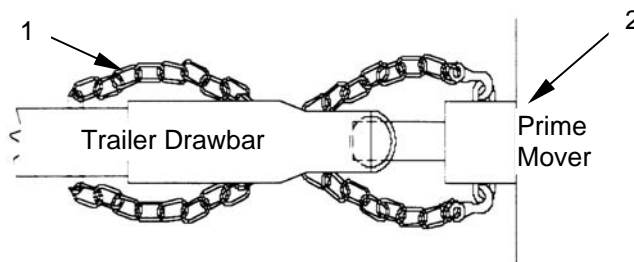
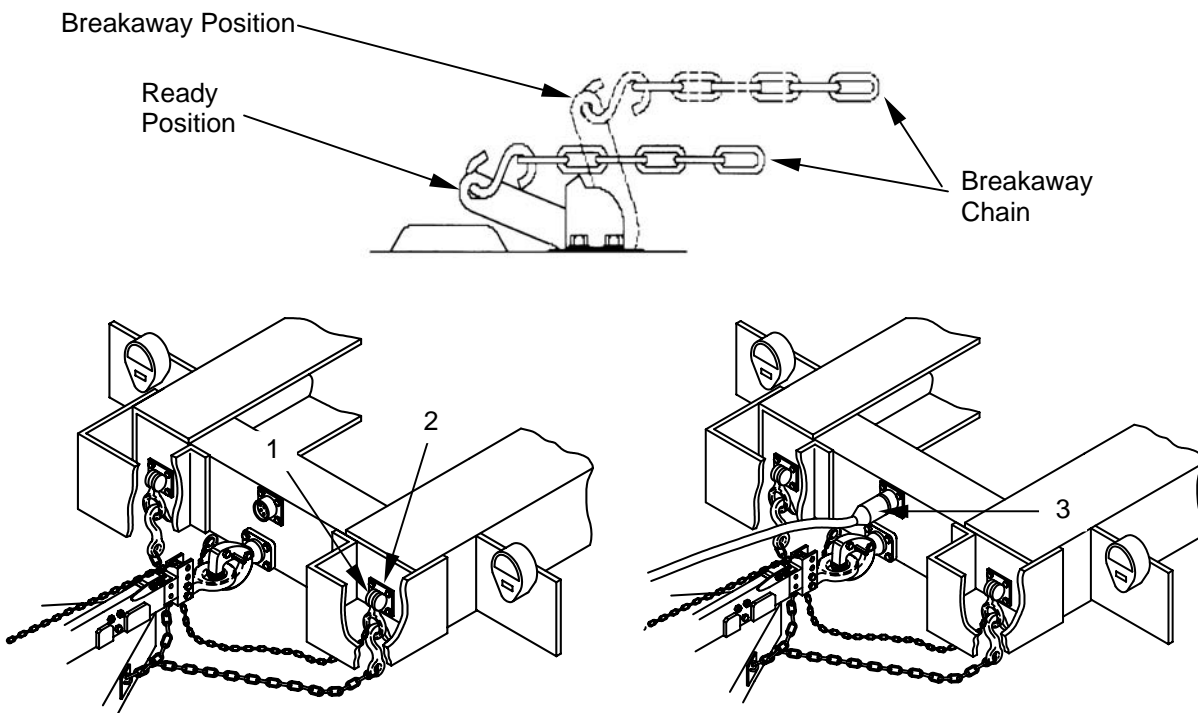

Figure 8. Connecting Safety Chains
Figure 9. Connecting Breakaway Chain and Inter-vehicular Cable to Prime Mover
9. Connect trailer safety chains (**figure 8, item 1**) to prime mover connecting points (**figure 8, item 2**). Cross the chains under the trailer drawbar as shown in Figure 8.
If the breakaway lever is not in the ready-position as shown in Figure 9, do not tow the trailer. The brakes must be reset before the trailer can be moved. Notify unit maintenance to re-set the brakes as described in WP 0045 00.
10. Connect the S-Hook at the end of the breakaway chain (**figure 9, item 1**) to one of the safety chain connecting points (**figure 9, item 2**) on the prime mover as shown in Figure 8.
11. Connect the inter-vehicular cable (**figure 9, item 3**) to the prime mover.